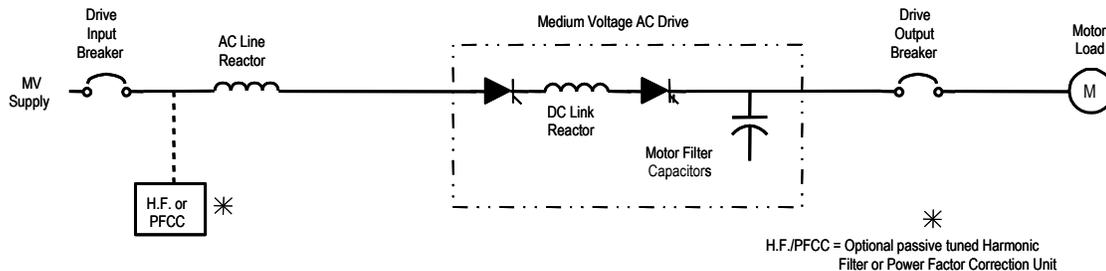

Figure 11.D – Breaker Feeding a Line Reactor on the Input of a 6-pulse Rectifier type of Drive
**Note:** In Figures 11.A to 11.D, the *Breaker feeding a combination of a drive with a front end passive-tuned filter* is an optional configuration used infrequently with the drives. It is shown as a box identified as “H.F. or PFCC”. It will be more common with the 6-Pulse Rectifier type of drive. The capacitors in the filter will also be energized and de-energized by the circuit breaker.